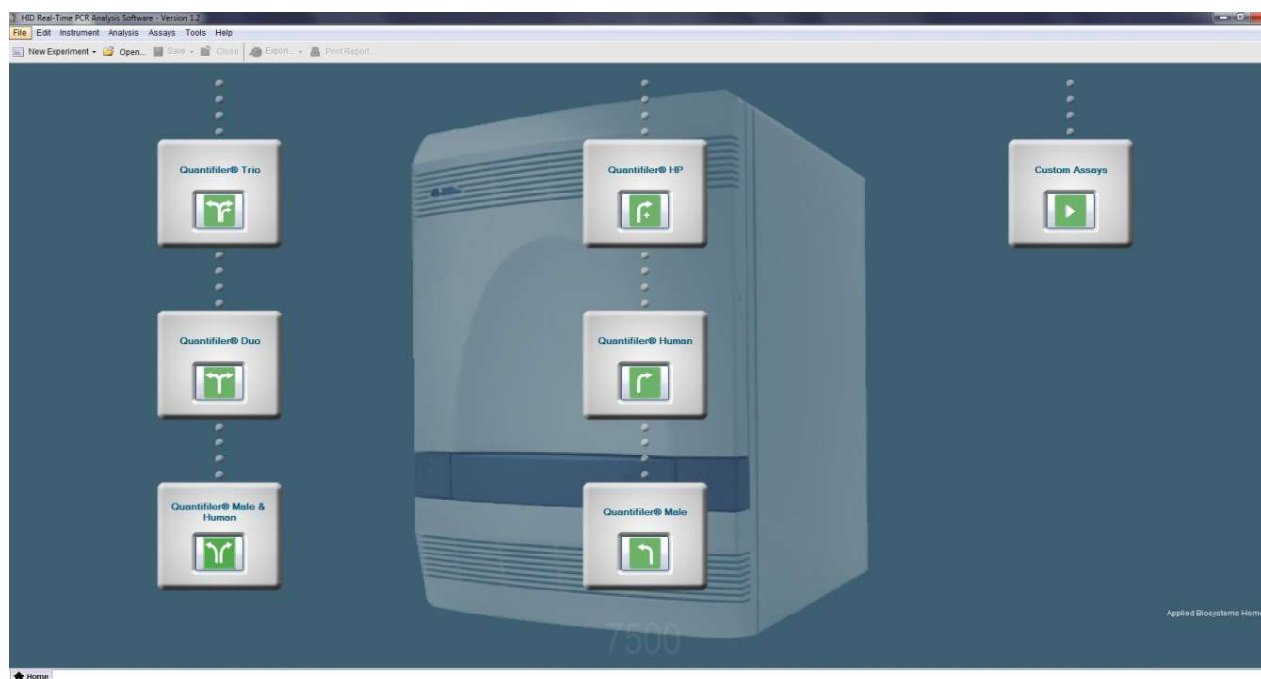

Figure 10 HID Real-Time PCR Analysis Software v1.2 Home Screen.
- From the Home screen select and click on **QUANTIFILER® TRIO** (Figure 10)